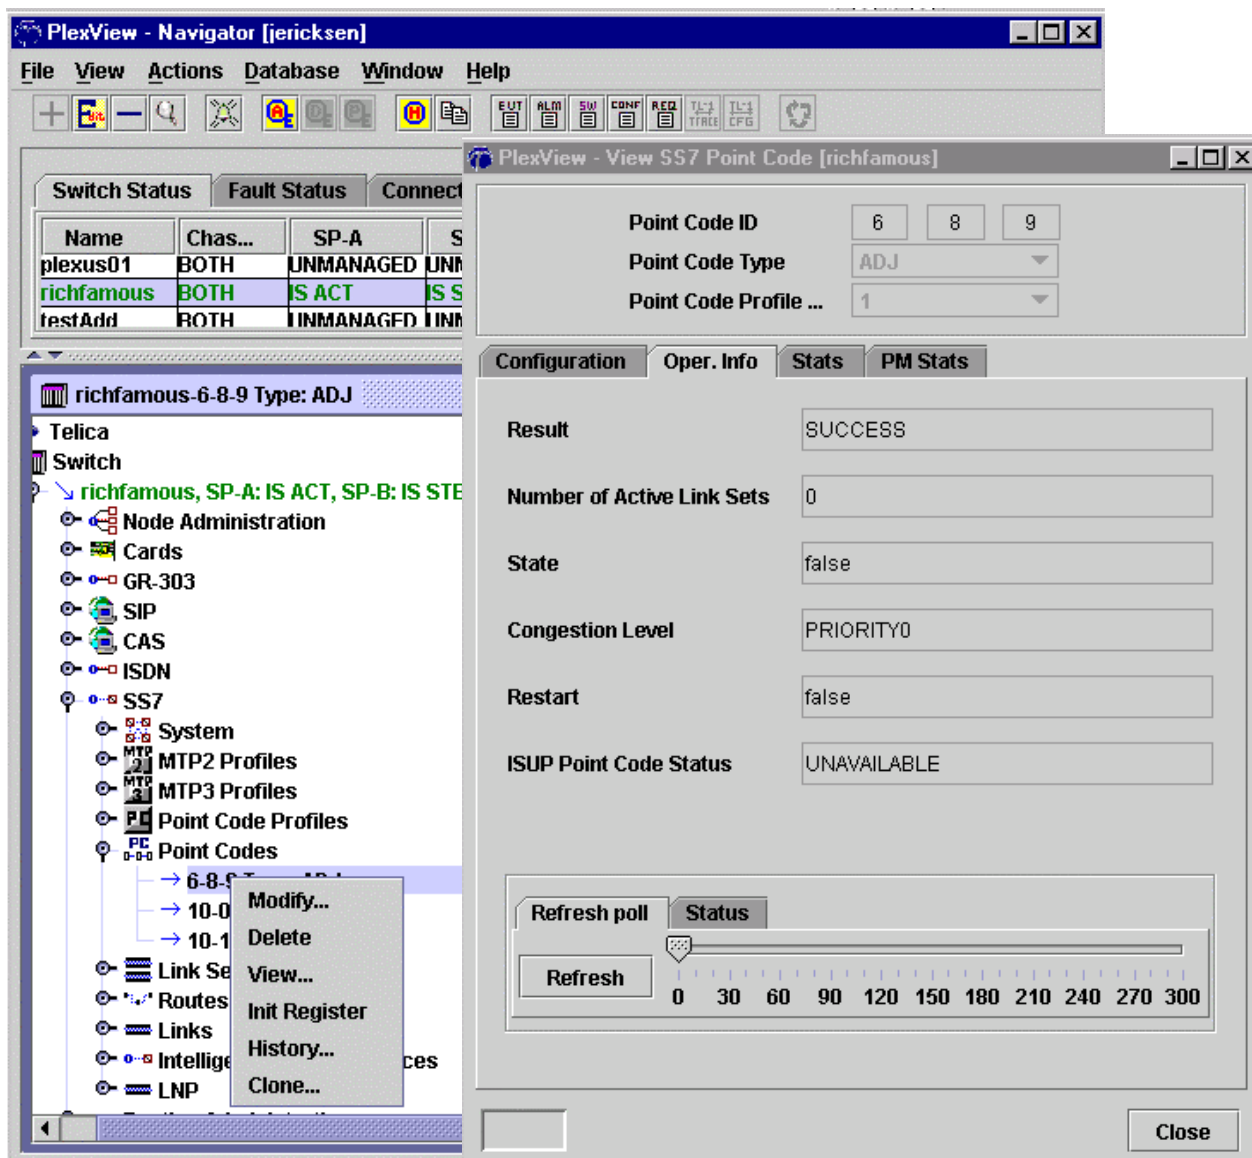

Figure 1. SS7 Operational Information
5. Retrieve status of a point code. Double-click *SS7* and *Point Codes*. Right-click desired point code, select *View* and then *Oper. Info*. Click *Refresh* near the bottom to get latest information. Refer to Figure 1.